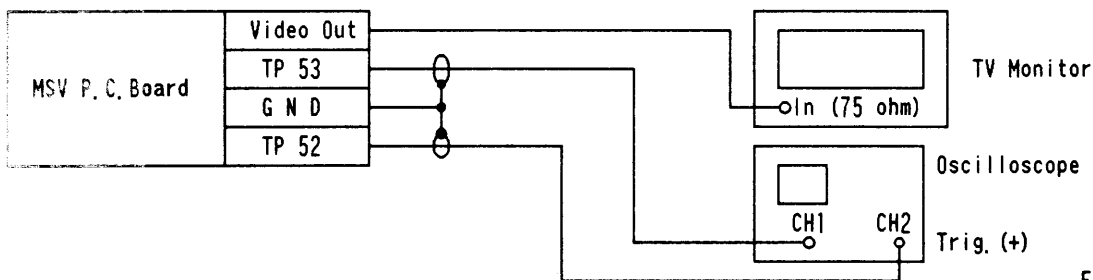

Fig. 3-4
1. Connect the equipment as shown in Fig. 3-4.